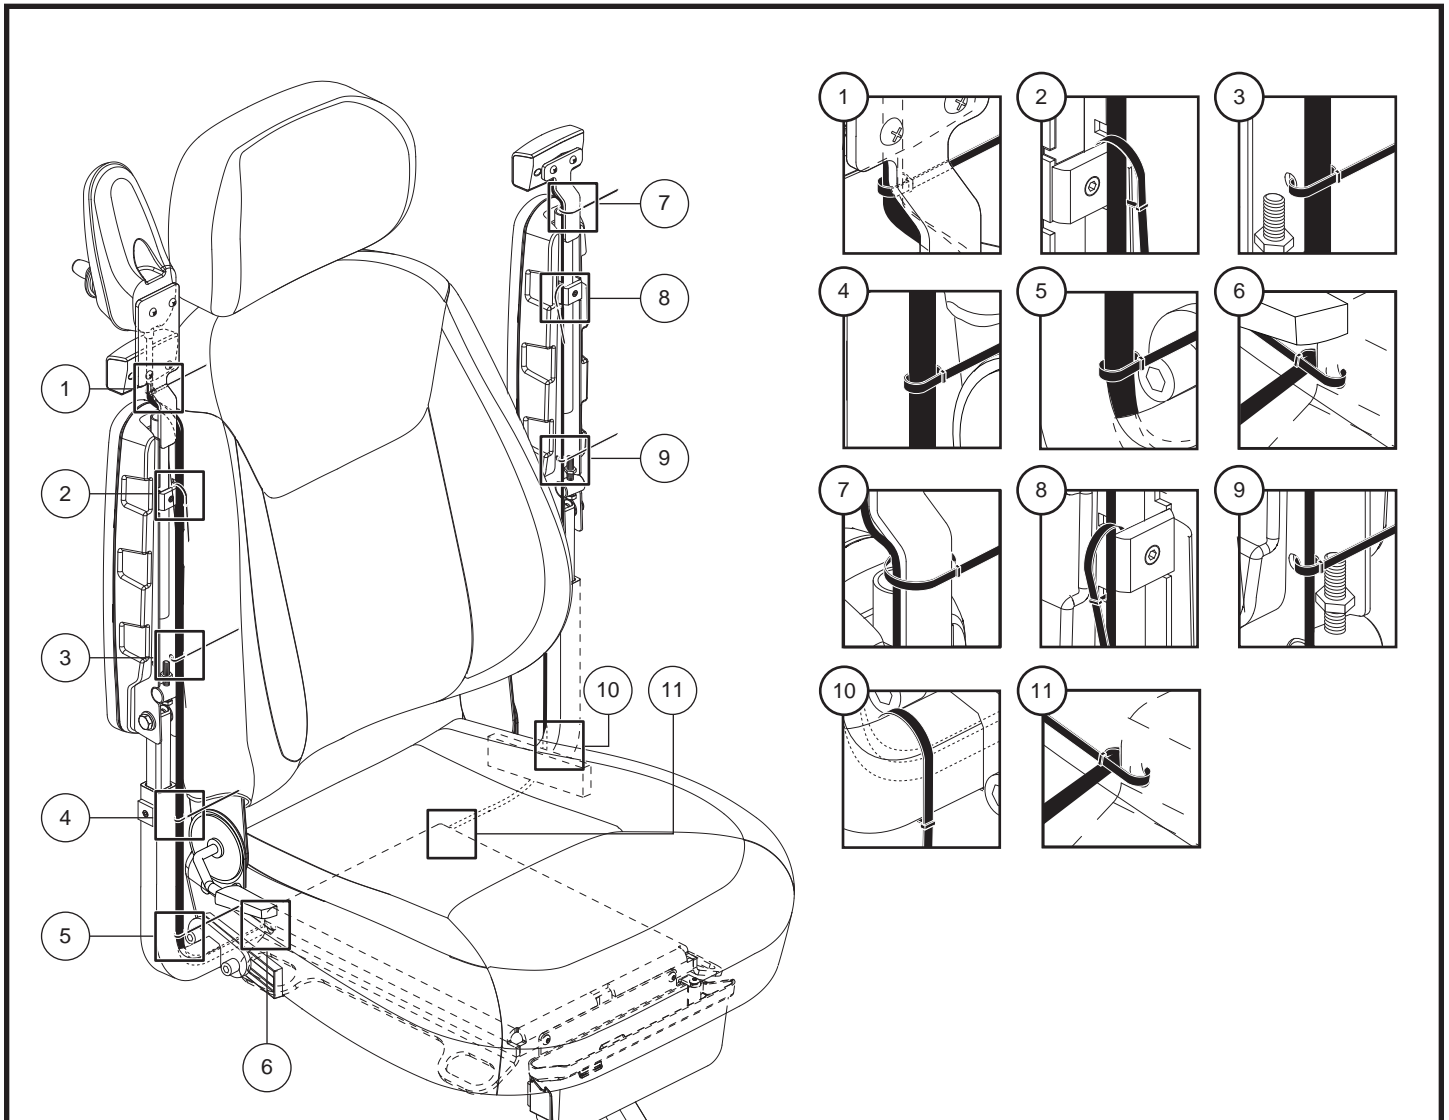

Figure 11. Controller Harness Routing
17. Secure the harnesses on the armrest with the supplied wire-ties as shown in **figure 11.**
19. Secure the harnesses along the armrest receiver and seat plate with supplied wire-ties as shown in **figure 11.**
WARNING! Ensure that all harnesses are properly routed as shown in figure 11. Improper routing can cause damage to the light switch, controller or other electrical components.
2. For locations 1 through 10, tighten the wire-ties into place according to the proper harness routing as shown in figure 11.
9. Route the controller harness along the seat frame and secure with wire ties. **See figure 11.**